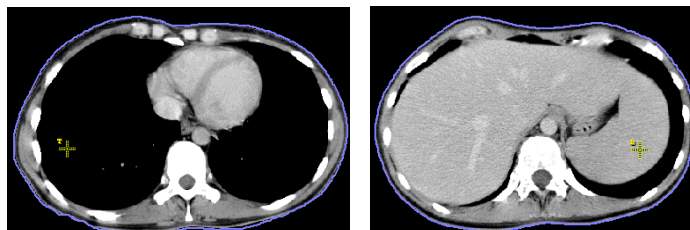

Figure 287 – Defining the top point and bottom point of the bolus
- The top point and the bottom point (the cursor is marked as **T** and **B** respectively) can be selected in any image in the current view. It is not necessary that these points are located on the contour line but simply in a view displaying the same image series (see Figure 287). The cursor will not be displayed as a green tick for **T** and **B**.